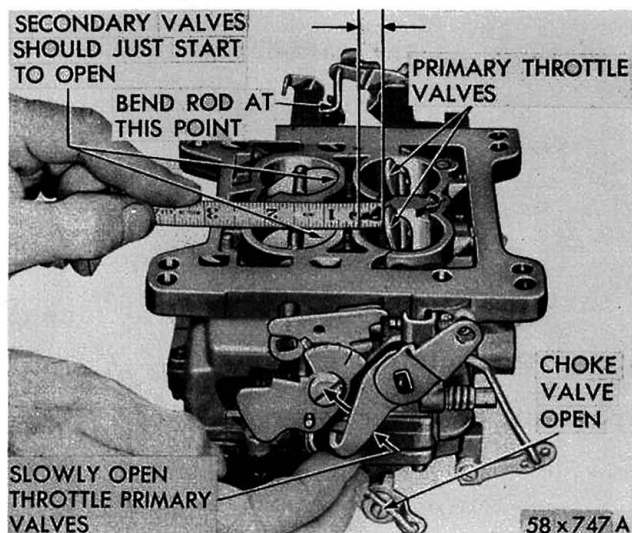

Fig. 5-Testing Secondary Throttle Opening
(1) To check the secondary throttle lever adjustment, block the choke valve in the wide open position and invert the carburetor.
(2) Slowly open the primary throttle valves until it is possible to measure $29/64$ " between the lower edge of the primary valve and the bore (opposite idle port), as shown in Figure 5. At this point, the secondary valves should just start to open.
(3) The wide open throttle stop lugs on both the primary and secondary throttle levers should contact the bosses on the flange at the same time.
(4) If an adjustment is necessary, bend the secondary throttle operating rod at the angle, using Tool T-109-213, until correct adjustment has been obtained.
(5) At original assembly, the wide open throttle stops are adjusted so that the primary throttle valves go 6 to 8 degrees past the vertical position while the secondary throttle valves stop 6 to 8 degrees before the vertical position. Do not attempt to make further adjustments other than the one in paragraph (4) above.